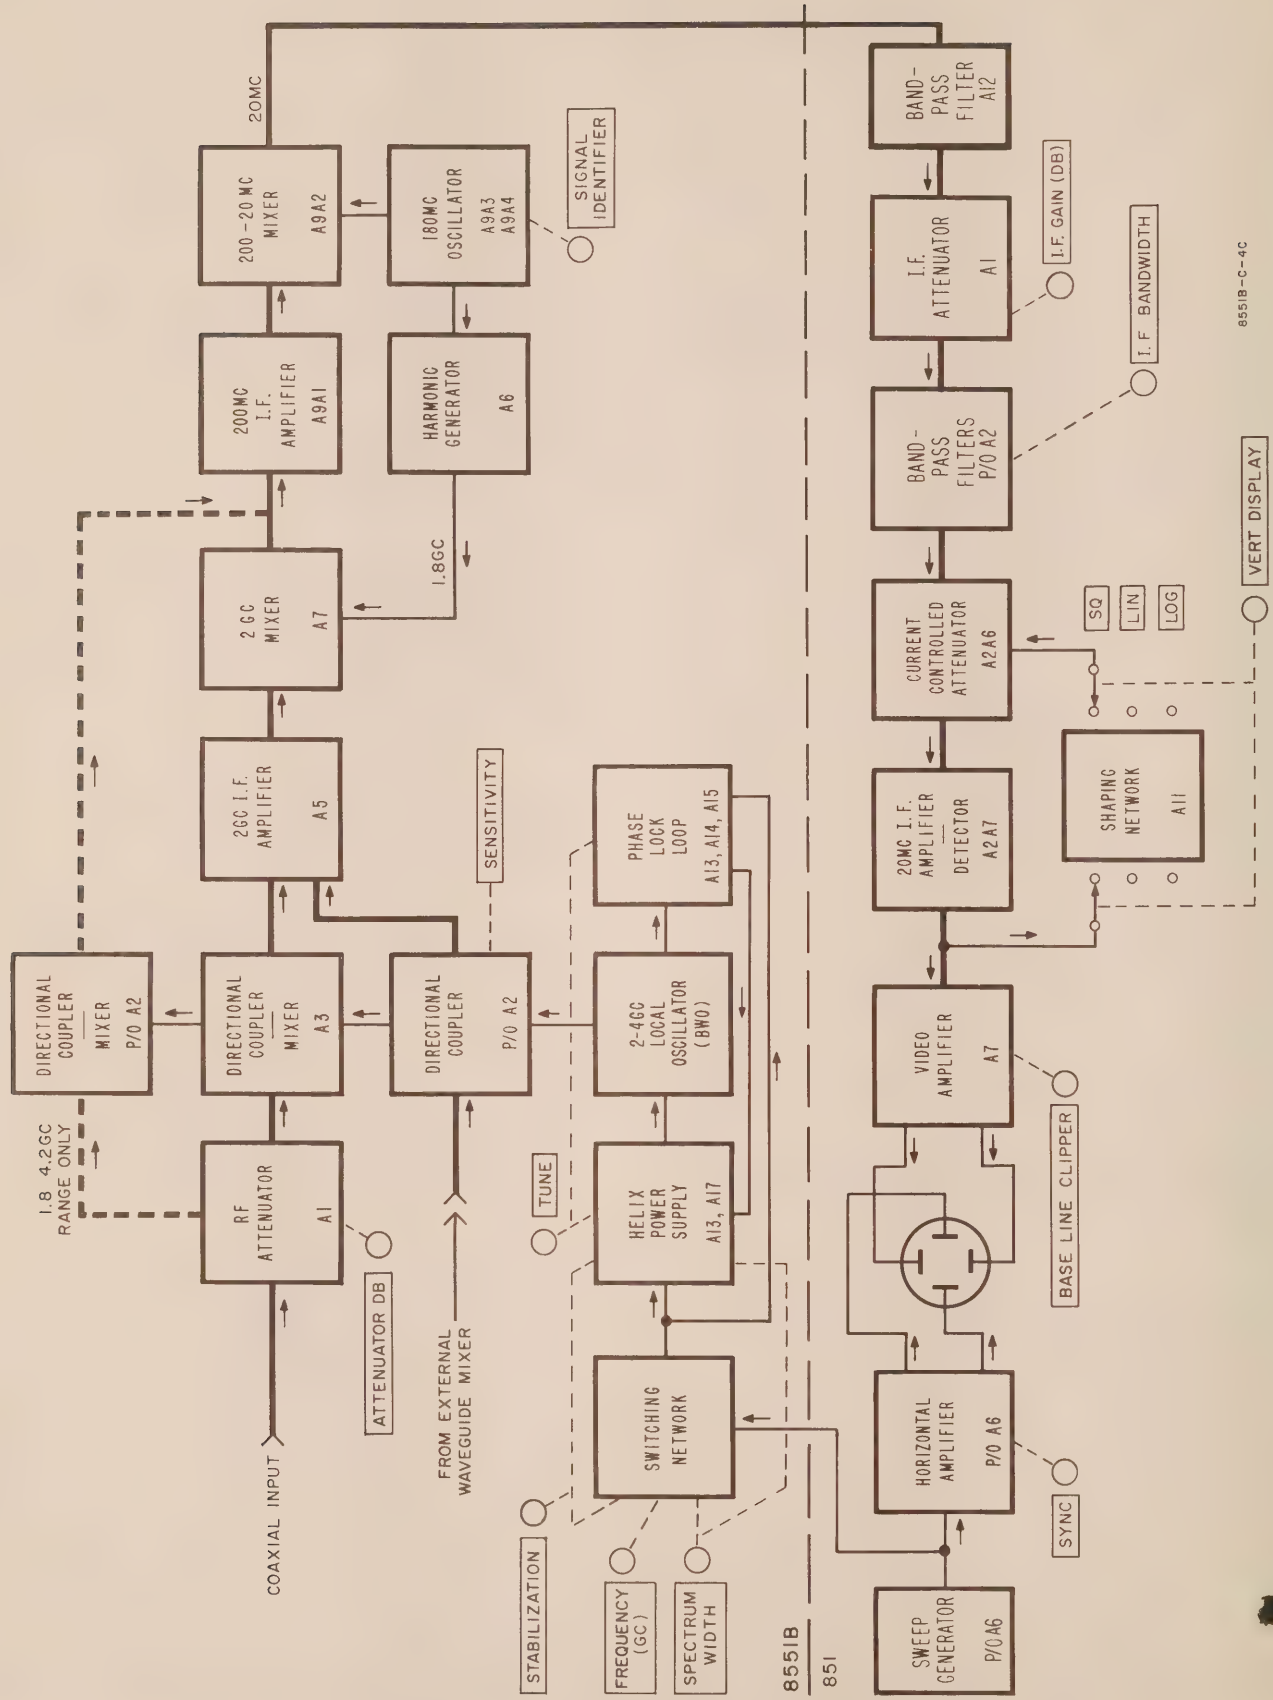

Figure 4-1. Overall Block Diagram
4-4. A block diagram of the spectrum analyzer including the 851 Display unit is shown in Figure 4-1. As shown in the block diagram, the sweep signal that drives the BWO first local oscillator is developed in the display section. This sweep signal is applied to a switching network that attenuates the sweep in accordance with the frequency range and spectrum width selected. The helix power supply reshapes the linear sweep to match the exponential helix-voltage-versus-frequency characteristics of the BWO. The sweep is also applied to the phase-lock loop. The output of the helix power supply is also affected by the TUNE control, which sets the center frequency about which the BWO sweeps. The output of the BWO is applied to three series-connected directional couplers, which couple the energy to the various mixers.
product of mixing the input and BWO frequencies.) To analyze signals at or near 2 Gc, therefore, the analyzer provides a mixing system that bypasses 2GC IF Amplifier A5 and the rest of the 2-Gc system; required connections are set up when FREQUENCY(GC) is set to 1.8 - 4.2. Switching between the two mixing systems is accomplished by two coaxial switches (not shown in Figure 4-1):